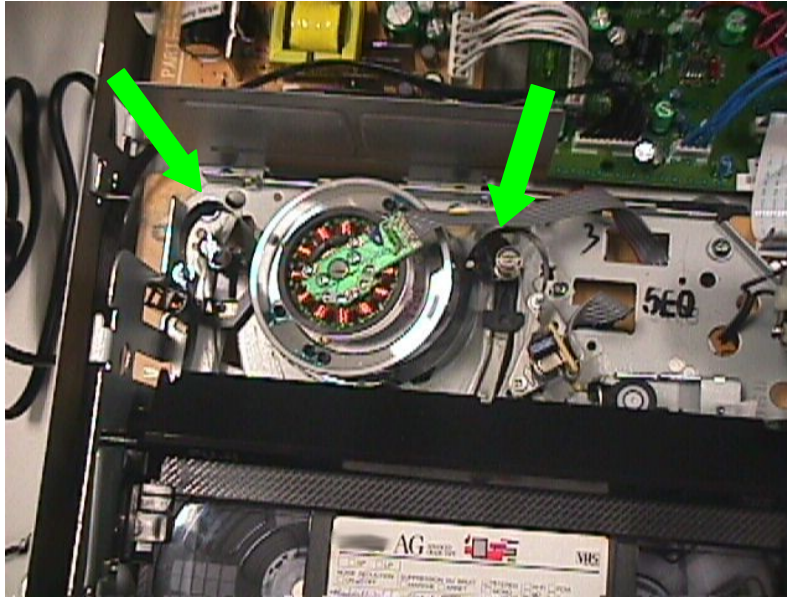

Figure 3:Tape slacked
- 3.The tape will be slackened as shown in figure 3.